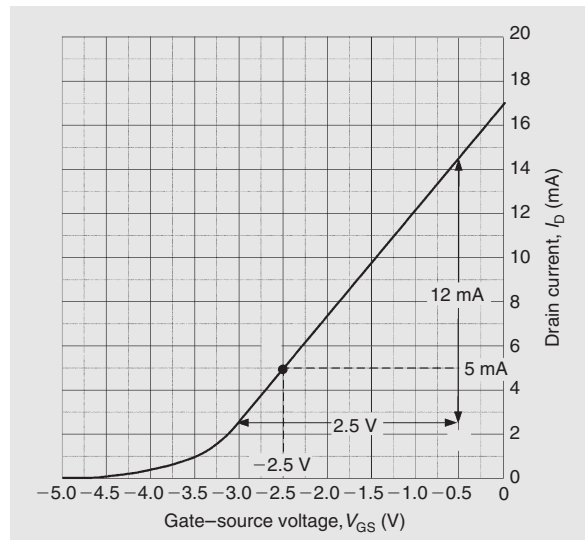

Figure 12.20
**Problem 8.** Fig. 12.20 shows the mutual characteristic for a junction gate field effect transistor. When the gate-source voltage is  $-2.5$  V, determine (a) the value of drain current, (b) the dynamic value of forward transconductance.
- (a) From Fig. 12.20, when  $V_{GS} = -2.5$  V, the **drain current,  $I_D = 5$  mA**
- (b) From Fig. 12.20